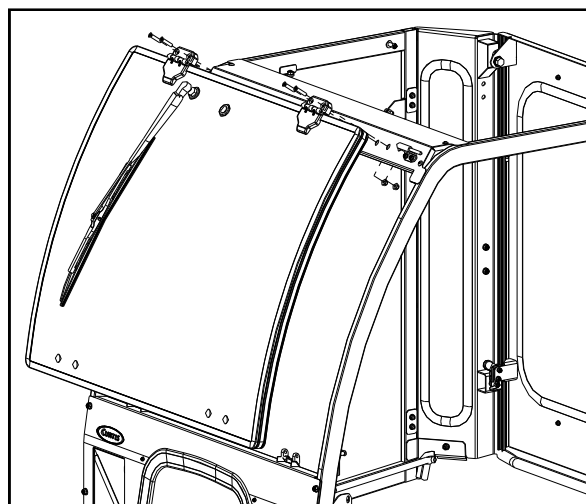

Fig. 11.1 (Windshield Installation)
11.1 Install the windshield to the windshield support using (1) plastic spacer block underneath each upper plastic hinge to space it off the windshield support. Snug fasteners, but **do not tighten fully**. See Fig. 11.1.